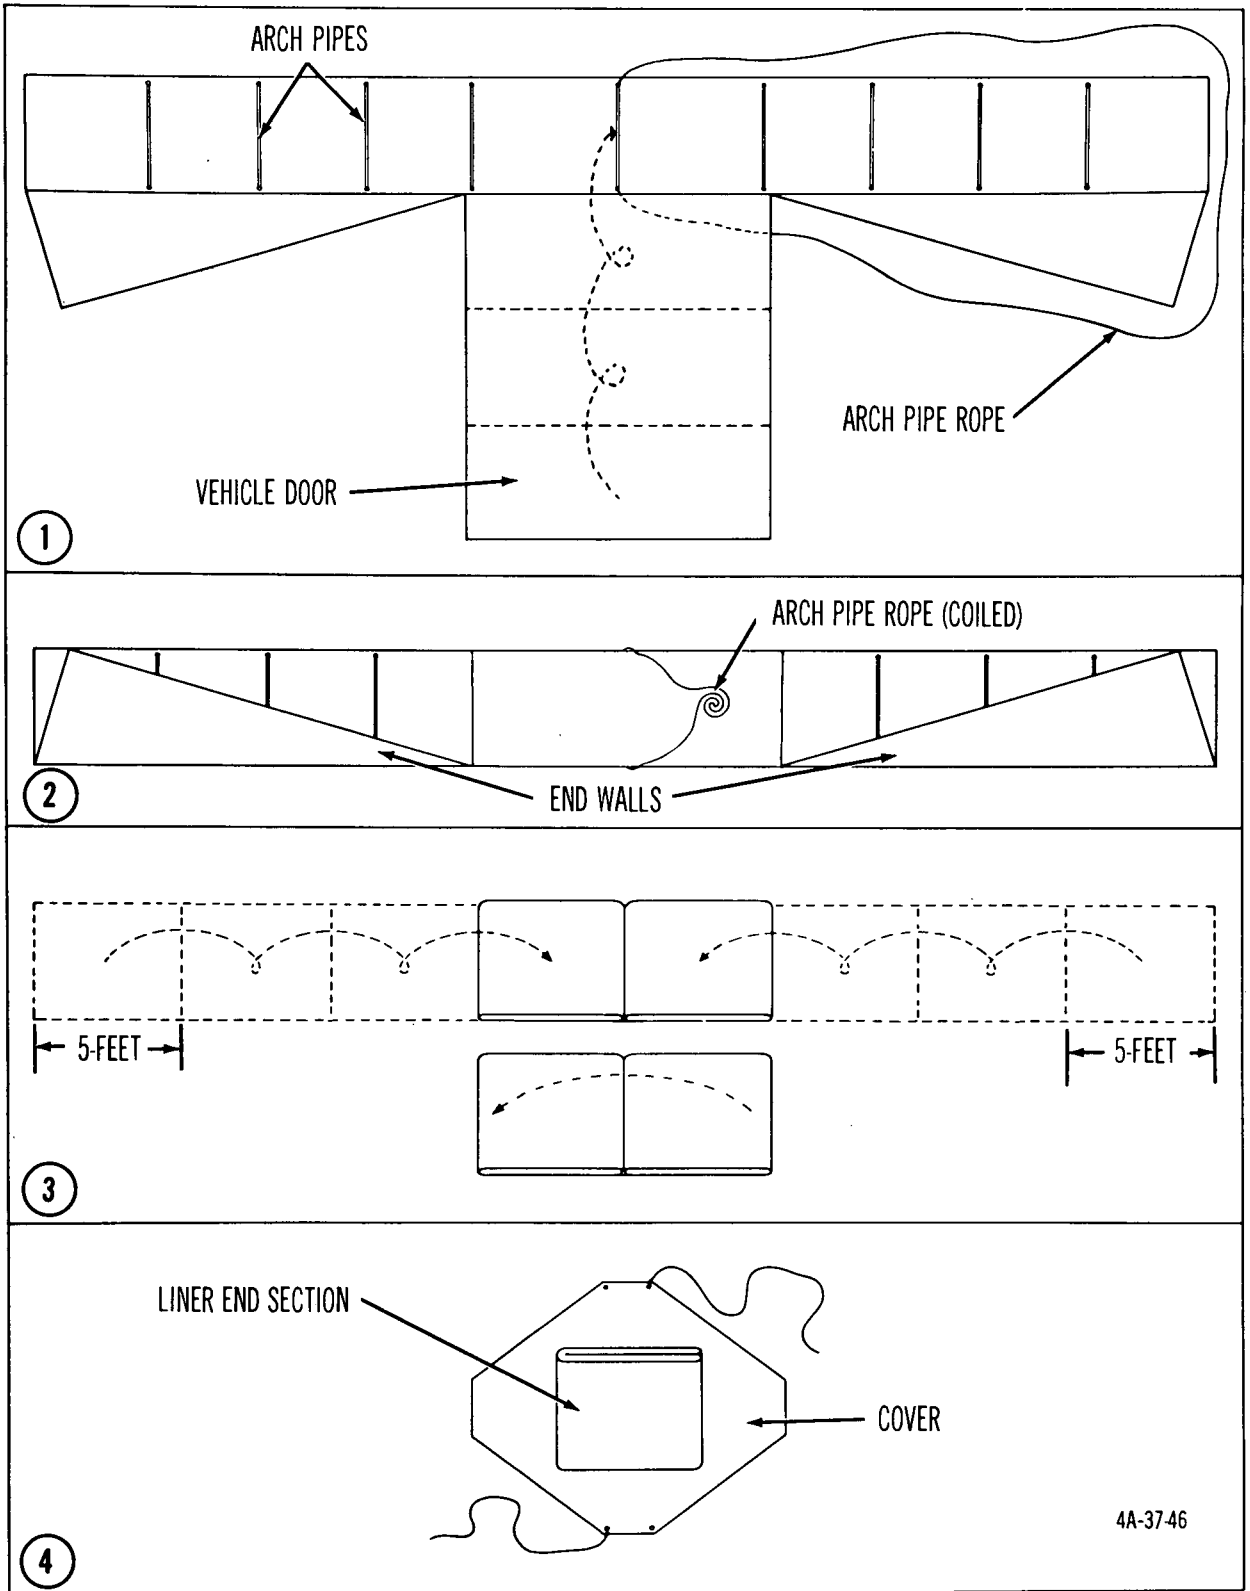

Figure 59. Folding and packing liner end section of tent, frame-type, maintenance, medium light metal.
(1) *Folding tent liner end sections* (fig. 59).